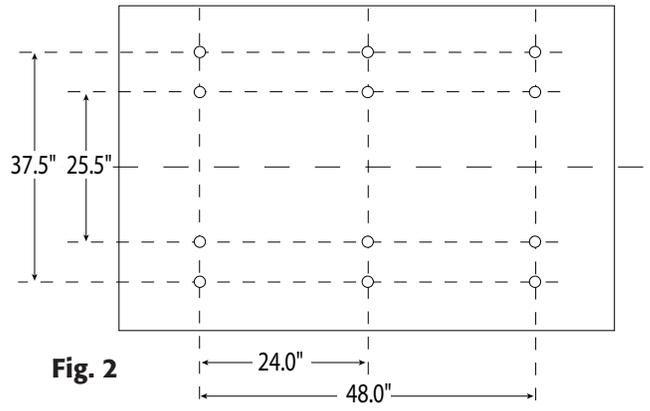

Fig. 2
F. Using holes in gussets as templates transfer six (6) holes positions on trucks bed. Make sure that these holes will not interfere with any important trucks components. Drill six 9/16" holes. Dimensions between holes are shown in Fig.2. Bolt spreader to the vehicle. Using 1/2" grade 5 hardware.